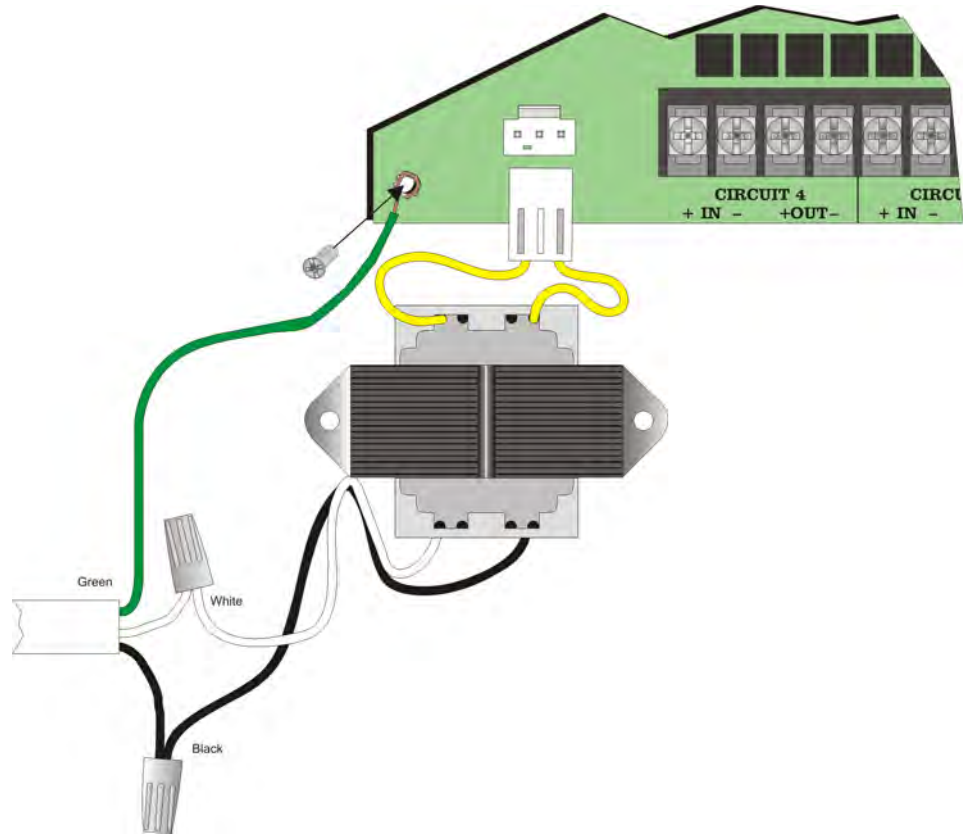

Figure 4.19 AC Connections
4. Connect AC power to the Transformer as Shown in Figure 4.19.
5. Plug the transformer output to the AC connector on the control panel as shown in Figure 4.19.